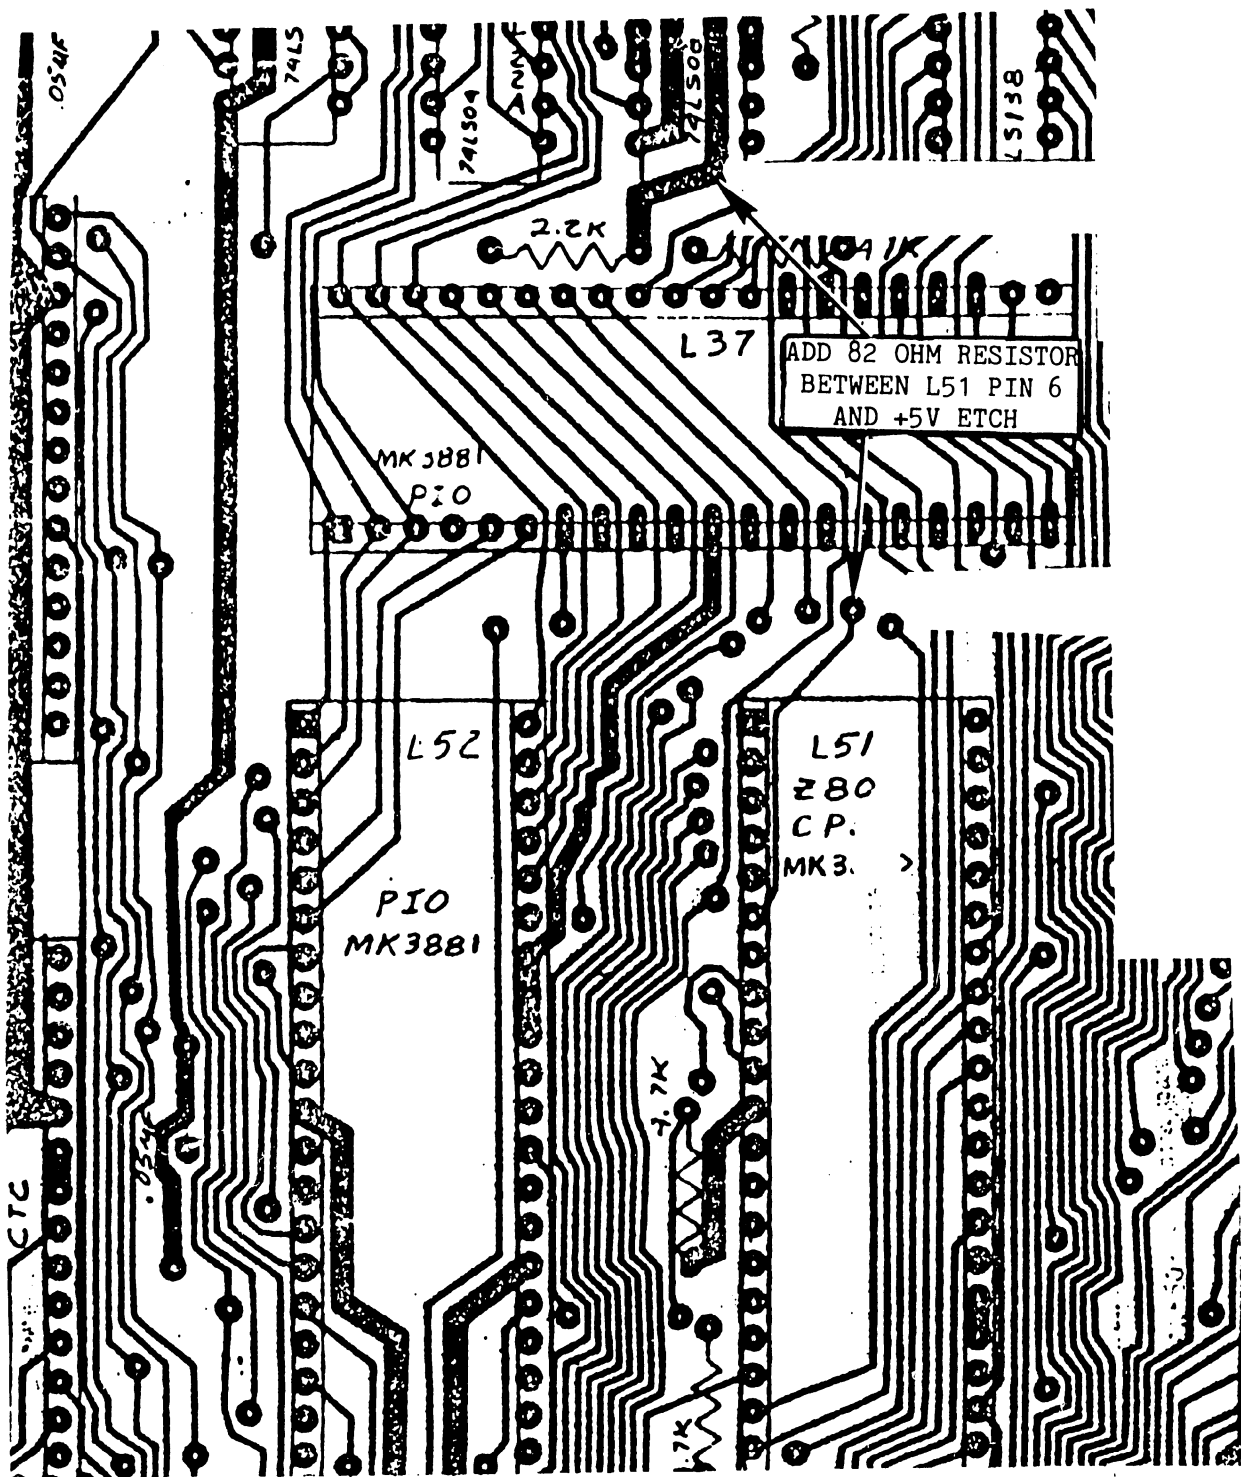

FIGURE 17 ECN 13403 FOR 210-7426 PCB
2. Add the 82 ohm resistor between L51 pin 6 and +5V, using the feed thru and the +5V etch shown in Figure 17. Use tubing around the resistor to prevent electrical shorts.